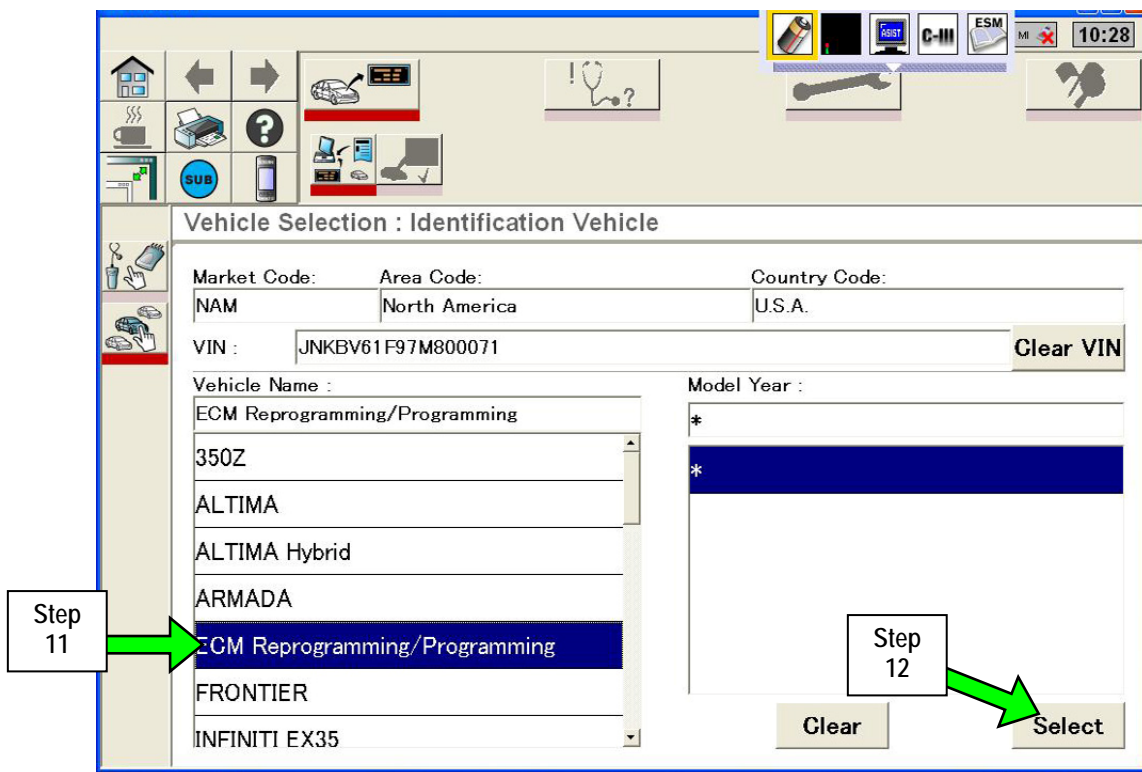

Figure 2
11. Select **ECM reprogramming / Programming** (see Figure 2).